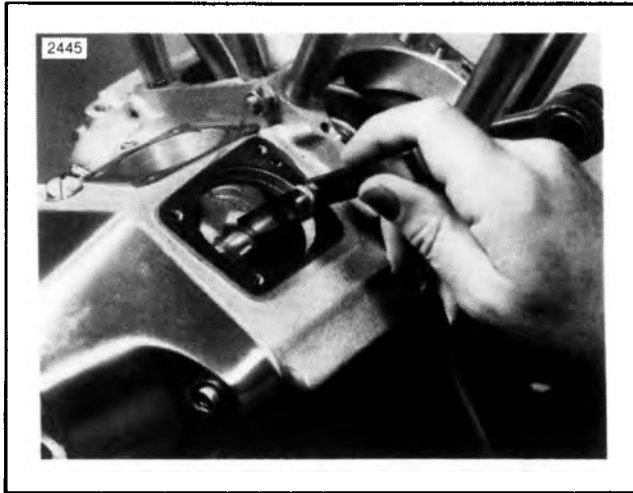

Figure 3-38. Checking Camshaft End Play
2. See Figure 3-38. Establish proper cam gear shaft end play as follows: Install thrust washer, spacing washer and cam shaft gear. Position cover gasket and secure cover with at least four screws. Measure cam gear end play between cam gear shaft and thrust washer with thickness gauge through tappet guide hole in gearcase. 1987 and earlier end play should be 0.001 - 0.016 in. If measurement is under or over tolerance, remove cover and replace spacing washer with one to give suitable clearance. Cam gear shaft spacing washers are available in 0.005 increments from 0.050 - 0.095 in. thick.